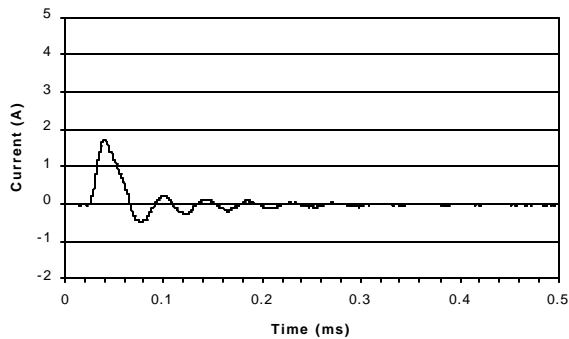

Figure 4. Dry Condition Current Output.
**Shock Intensity:** Current output for dry and wet conditions is shown in **Figures 4 and 5**.